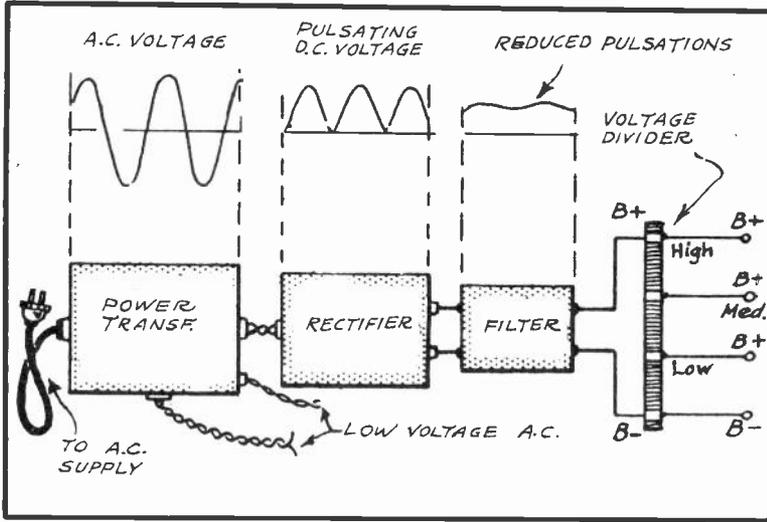

FIG. 2
IN FIG. 2 THE VARIOUS UNITS WHICH TOGETHER FORM THE COMPLETE POWER SUPPLY ARE ALL LAID OUT IN DIAGRAM FORM. ABOVE EACH UNIT YOU WILL SEE A GRAPHICAL REPRESENTATION OF WHAT IS GOING ON WITHIN IT.
STARTING AT THE LEFT OF FIG. 2, WE HAVE FIRST THE POWER TRANSFORMER, WHICH RECEIVES AN A-C SUPPLY FROM THE HOUSE LIGHTING LINES. THIS PARTICULAR TRANSFORMER DOES THE FOLLOWING TWO IMPORTANT THINGS: (1) IT STEPS-UP SOME OF THE LIGHTING SUPPLY CURRENT TO A HIGH A-C VOLTAGE WHICH IS DELIVERED TO THE RECTIFIER FOR "B" USE; (2) IT ALSO STEPS-DOWN THE A-C LIGHTING VOLTAGE TO THE VARIOUS A-C VOLTAGES REQUIRED BY THE TUBE FILAMENTS.
AS SHOWN IN FIG. 2,